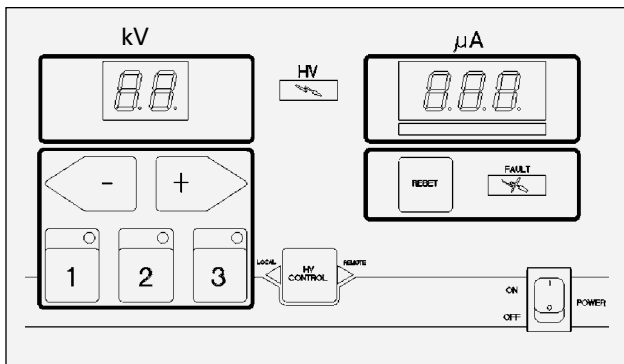

Figure 3: 9060 Operator Interface
The 9060 Controller shown in Figure 3, has a simple operator interface consisting of 7 LEDs (Light Emitting Diodes), one (1) power switch, seven (7) buttons, one (1) current LED bargraph, and two (2) screens containing seven-segment displays.
This button, shown in the center of Figure 3, is not functional for handgun units.